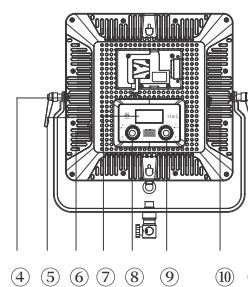

Fig.6 PL60D
This product support battery and adaptor power supply, switch on the light (Fig.6 ⑩), set the require light parameter by brightness adjusting knob (Fig.6 ⑧), color temperature adjusting knob (Fig.6 ⑨), then use normally.
This product support two color temperature and brightness adjusting mode: General adjusting mode, Fast adjusting mode. Press brightness/color temperature adjusting knob (Fig.6 ⑧/⑨) to change the adjusting mode the user can set the brightness/color temperature quickly by combining the two adjustment modes according to the usage demand.
Long pressing the brightness adjusting button (Fig.6 ⑧) about 2s to enter in communication address setting interface, communication address range: 001-512.
LCD digital tube field (Fig.8 ④) flashing indicates that the current bit is selected, rotate the brightness adjustment knob (Fig.6 ⑧) to set the current bit, press the brightness adjustment knob (Fig.6 ⑧)
to determine the setting of the current bit and go to the next bit, when the setting of the last bit is completed, press the brightness adjustment knob (Fig.6 ⑧) or wait for about 5 s, to exit the setting of the communication address.
Through the DMX line of the lamp network, long press color temperature adjustment knob (Fig.6 ⑨) about 2 s, to complete the lamp communication control mode setting.